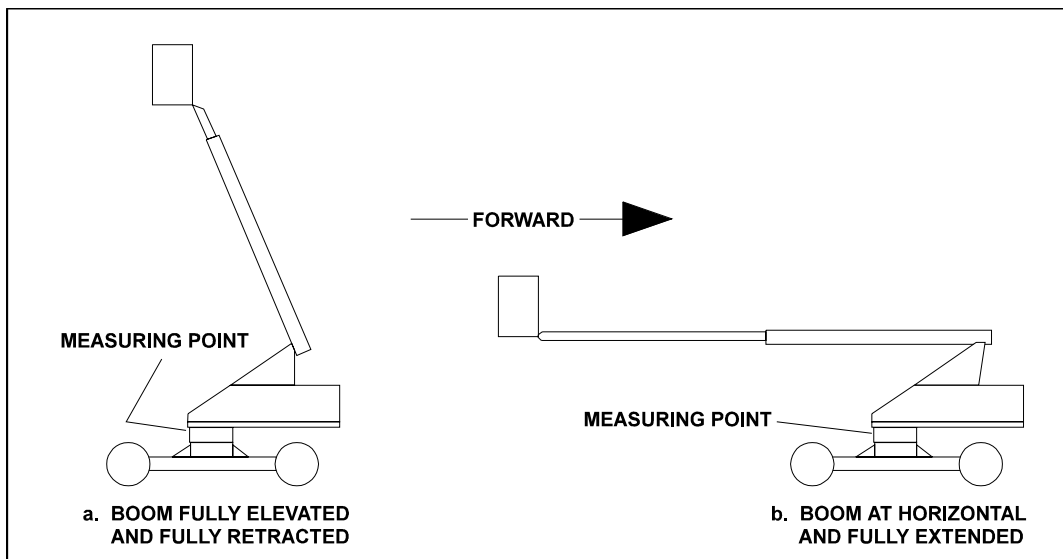
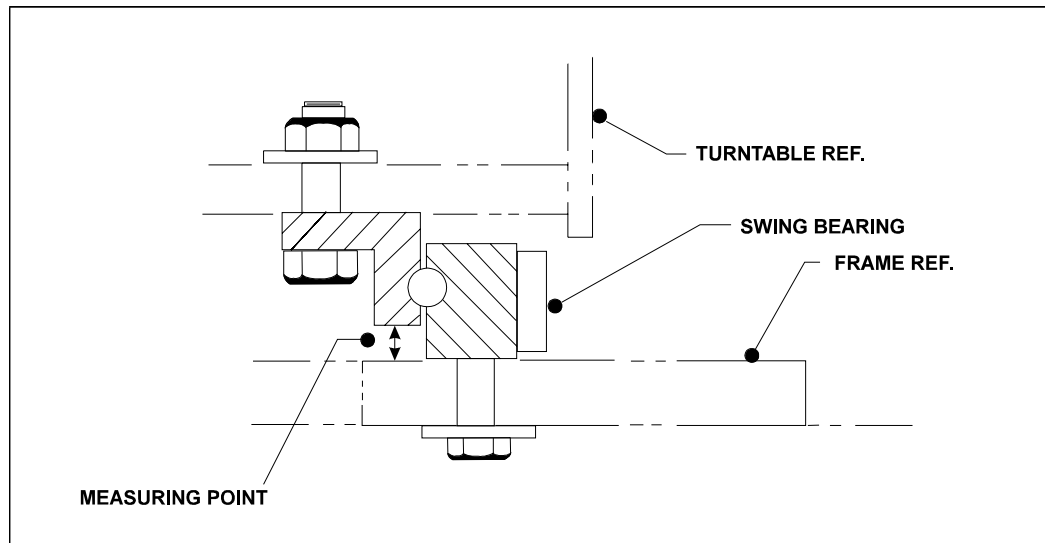

Figure 2-29. Swing Bearing Tolerance Boom Placement
Figure 2-31. Swing Bearing Tolerance Measuring Point
1. From the underside of the machine, at rear center, with the boom fully elevated and fully retracted (See Figure 2-29.), using a magnetic base dial indicator, measure and record the distance between the swing bearing and frame. (See Figure 2-29.)
2. At the same point, with the boom at horizontal and fully extended (See Figure 2-29.), using a magnetic base dial indicator, measure and record the distance between the swing bearing and frame. (See Figure 2-31.)